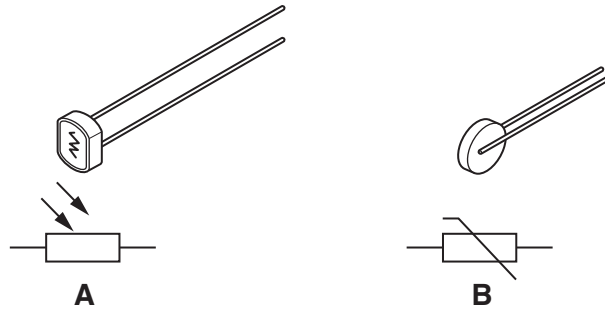

Fig. 2
- 6 Fig. 2 shows two input transducers with their circuit symbols.